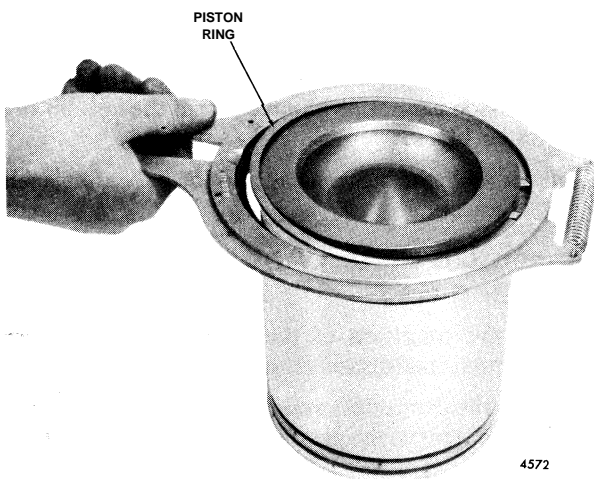

Fig. 3 - Removing or Installing Piston Rings using Tool J 22405-02
1. Secure the connecting rod in a vise equipped with soft jaws and remove the piston rings with tool J 22405-02 (Fig. 3).